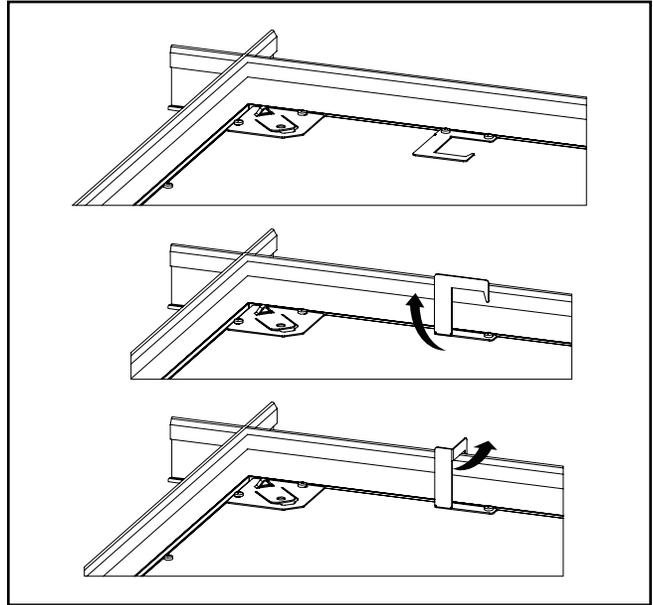

Figure 3.
6. Grid clips are provided for additional retention to ceiling system. Orient 4 tabs on back of fixture over T-GRID by bending tabs up 90 degrees perpendicular to back of fixture. Next bend tabs 90 degrees towards T-GRID frame. (Figure 3.)